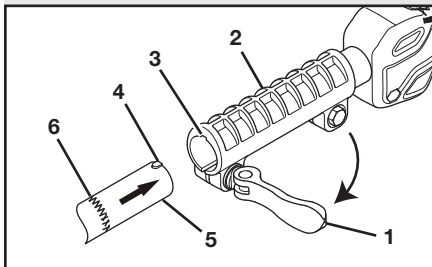

Fig. 1
1. Pull the locking lever (1) outward from the locking collar (2). Align the groove (3) in the locking collar with the matching key (4) on the end of the blower attachment shaft (5) (Fig. 1).
2. Insert the blower attachment shaft into the locking collar until the installation mark (6) meets the locking collar.